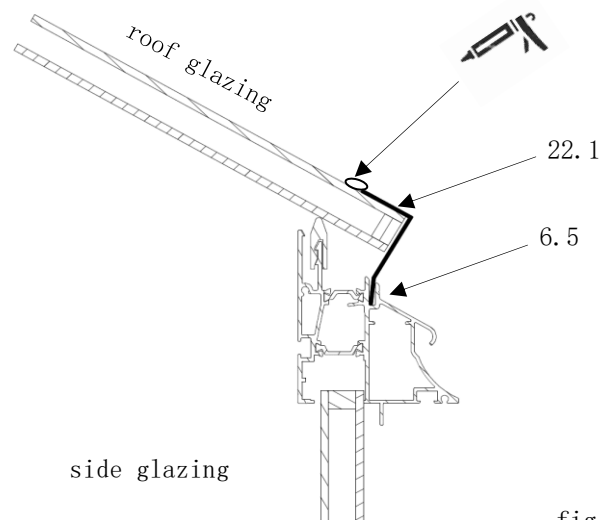

fig. 57
- see sectional view (fig. 57)
- seal the end stop bar (item 22.1) along the top edge with silicone! (fig. 57)